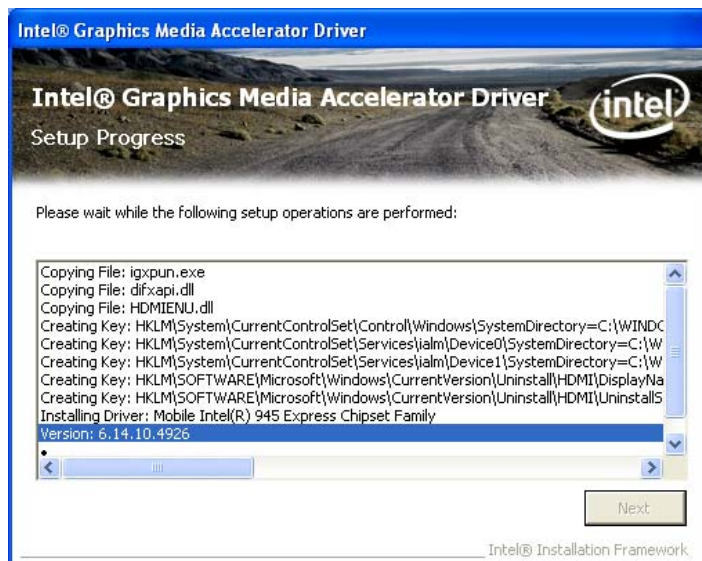

Figure 6-12: VGA Driver Setup Operations
Step 14: Setup operations are performed as shown in **Figure 6-12**.